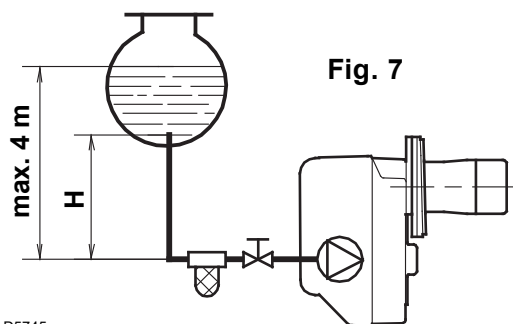
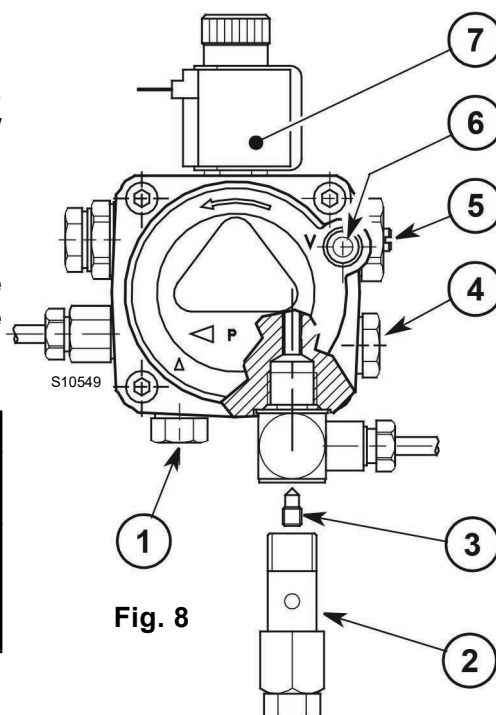

Fig. 7
Fig. 8
- The pump is designed to allow working with two pipes. In order to obtain one pipe working it is necessary to unscrew the pin (2), remove the by-pass screw (3) and then screw again the pin (2), (see Fig. 8).
On the system in Fig. 7 it is sufficient to loosen the suction gauge connection (6, Fig. 8) and wait until oil flows out.